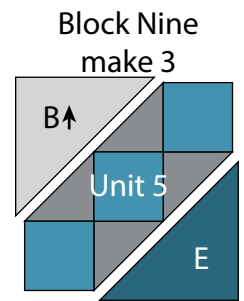

Fig. 21
11. Sew (1) $10 \frac{7}{8}$ " Fabric B triangle, (1) Unit 5 segment and (1) $10 \frac{7}{8}$ " Fabric E triangle together to make (1) $15 \frac{1}{2}$ " Block Nine square (Fig. 21). Repeat to make (3) Block Nine squares total.